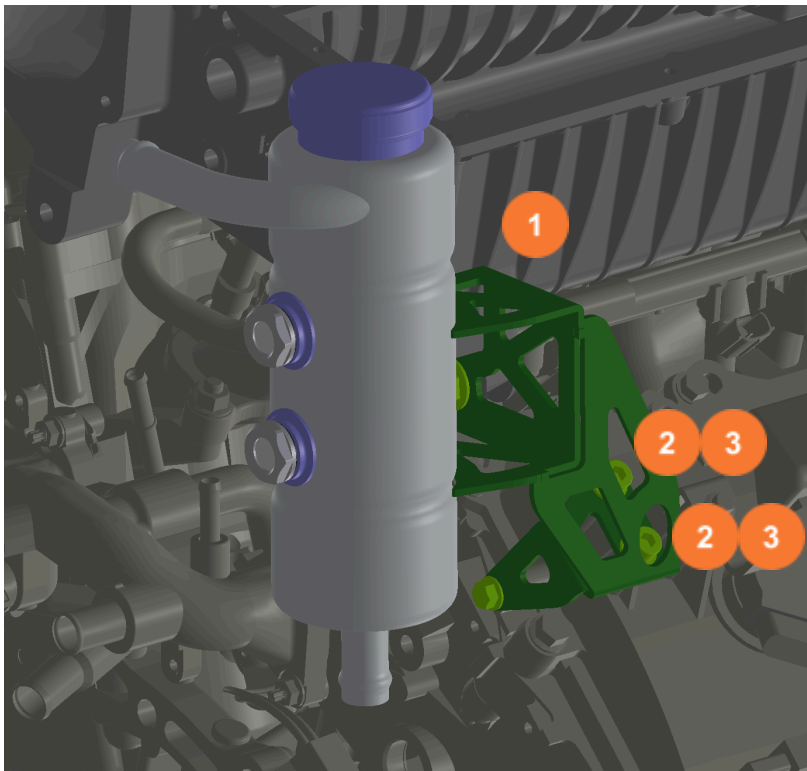
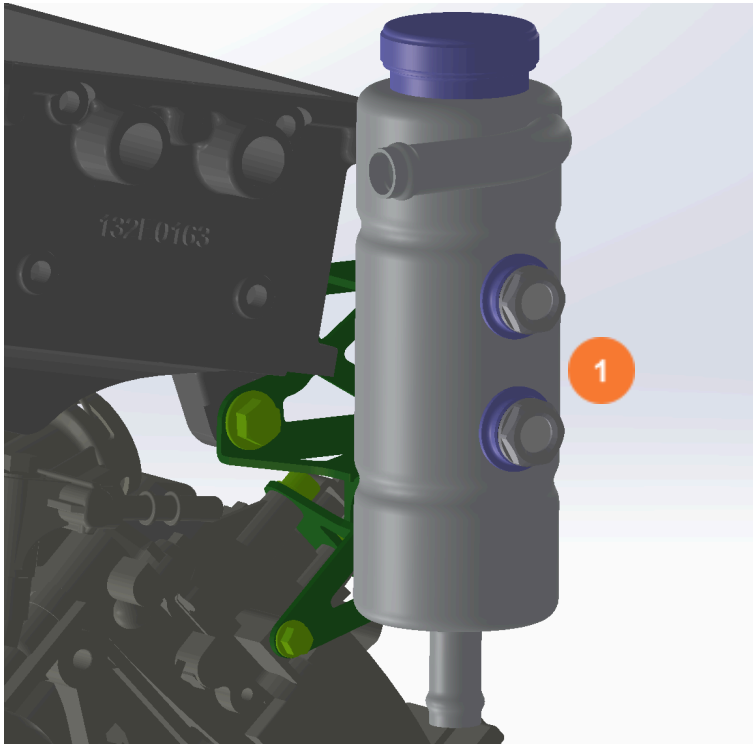

Fig 2. JUBU upgrade intercooler tank bolted onto the drivetrain unit
Fig 3. JUBU upgrade intercooler tank bolted onto the drivetrain unit
2. The JUBU upgrade intercooler tank and bracket (1) is screwed onto the drivetrain unit as shown in *Fig. 2* and *Fig. 3*. Use the OEM screws and 2x M8x20 and head cap screws (2) including M8 washers (3). The M6 screw is tightened with 10Nm, the M8 screws (2) with 25Nm and the M10 screw with 50Nm. All screws are fixed with *LOCTITE 243* locking lacquer.